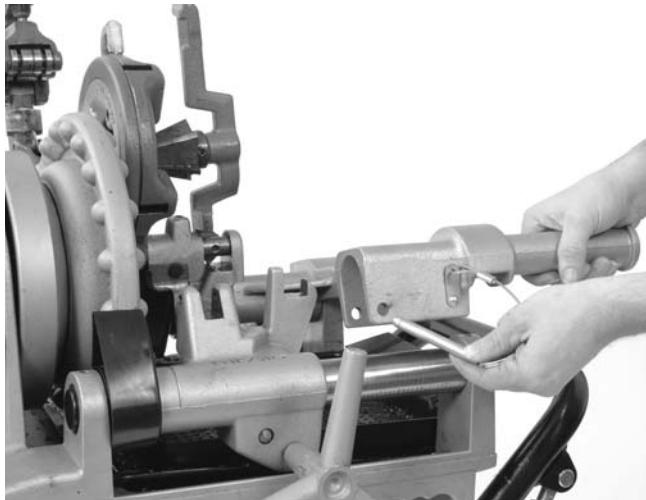

Figure 5 – Installing Adapter Bracket
- Place the adapter bracket over the end of rails of the 300 Compact (*as shown in Figure 5*) and lock into place with the attached pin.